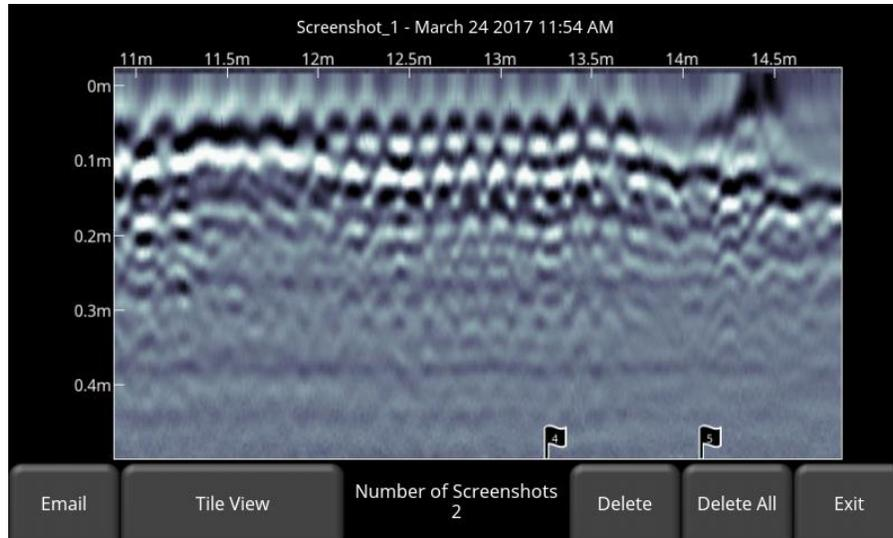

Figure 5-45: Expanded view of screenshot
- **Expand** – Press this button to show the selected screenshot as a full screen image (Figure 5-45). On the subsequent screen, press **Tile View** to return to the screen displaying four screenshots per page.